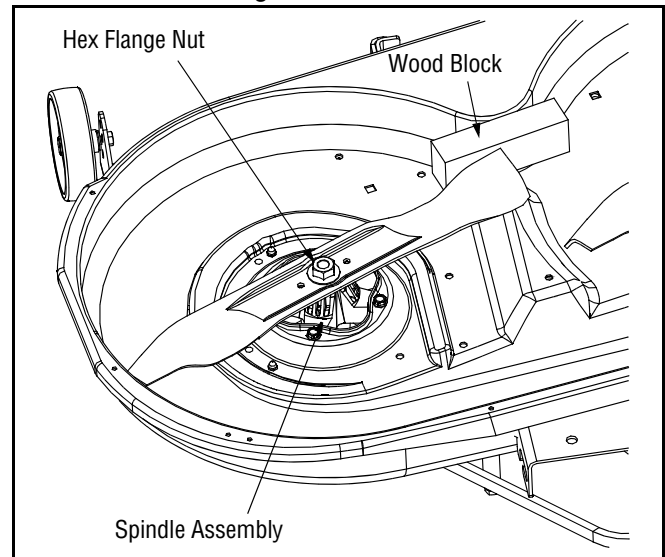

Figure 15
- Place a block of wood between the center deck housing baffle and the cutting blade to act as a stabilizer. See Figure 15.
- Use a 1-1/8" wrench to remove the hex flange nut that secures the blade to the spindle assembly. See Figure 15.